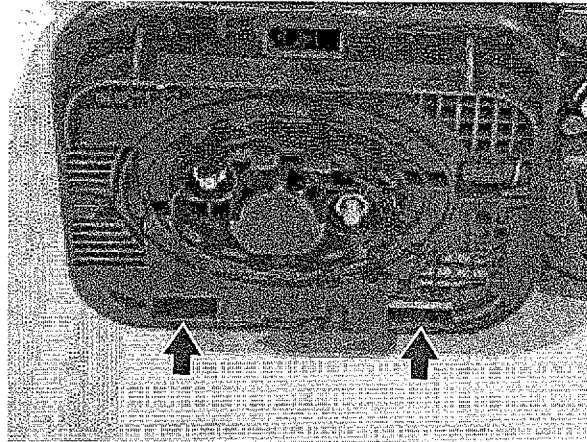

Figure 31 – Installation of Air Cleaner Cover
11. Make sure the hinges at the bottom of the air cleaner cover are properly inserted into the holes at the bottom of the air cleaner assembly (see Figure 31).